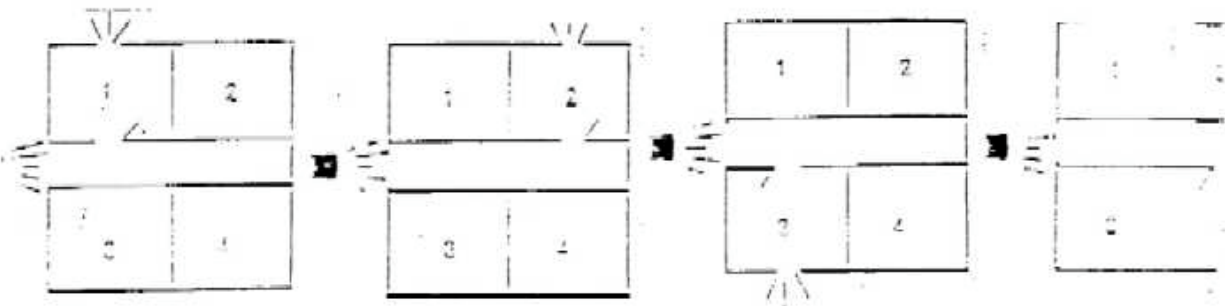

FIGURE 3
3. In the event that numerous windows have been removed during suppression efforts, PPV can still be accomplished by compartmentalizing individual rooms or areas by opening and closing individual doors as necessary. (See Figure 3.)